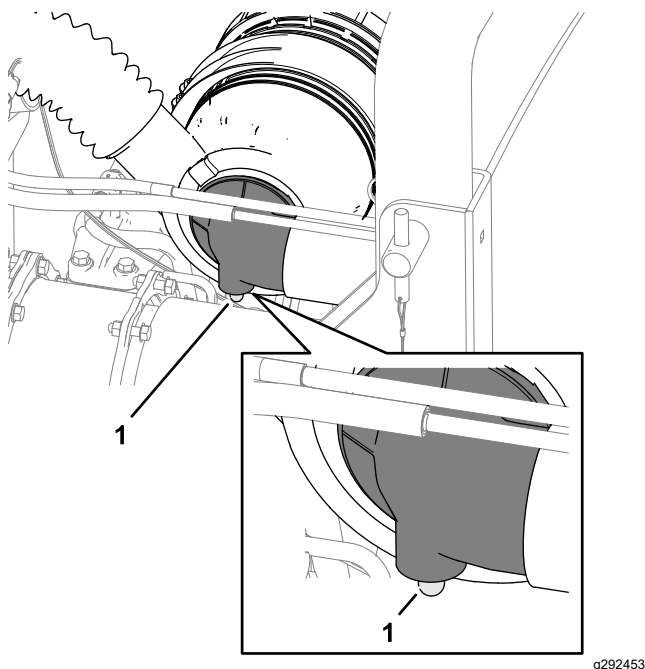

Figure 49
2. Check the air filter-blockage indicator (Figure 49).
Note: Service the primary air filter when the filter-blockage indicator (Figure 49) is red. Changing the air filter frequently increases the chance of dirt entering the engine when the filter is removed.